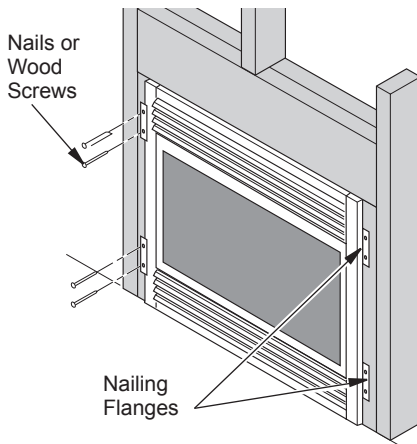

Figure 26 - Attaching Fireplace to Wall Studs
8. Attach fireplace to wall studs using nails or wood screws through holes in nailing flange (see Figure 26).